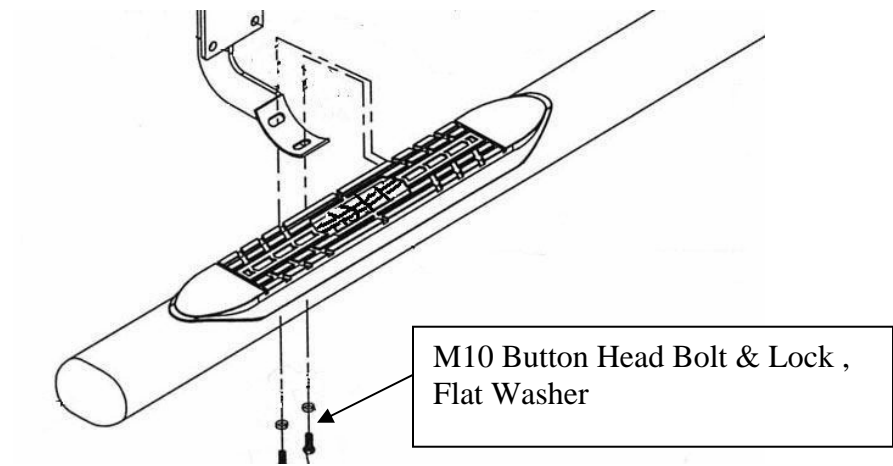

Figure 3. Installation Passenger View of Bracket & Bar
6. Assemble with M10 button head bolts and M10 washers. 2 bolts per bracket, 6 bolts per bar (**see Fig 3**). Hand tighten.